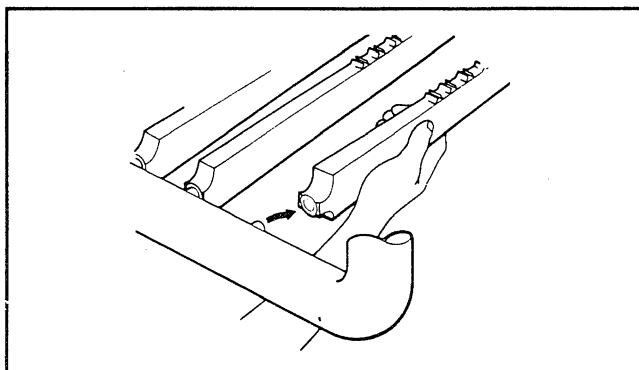

Figure 39. Burner Removal
If the pilot flame and sensor electrode are okay, but there is no main burner ignition, check for voltage between the yellow wire terminal on the transformer and the brown wire terminal on the gas valve with the voltmeter(see Figure 39). If the meter registers between 20-28V, but the main burners do not fire, replace the gas valve.
6. Grasp the burner firmly, and push it away from the manifold until it is clear of the orifice. Slide it out of the burner tray (see Figure 39).